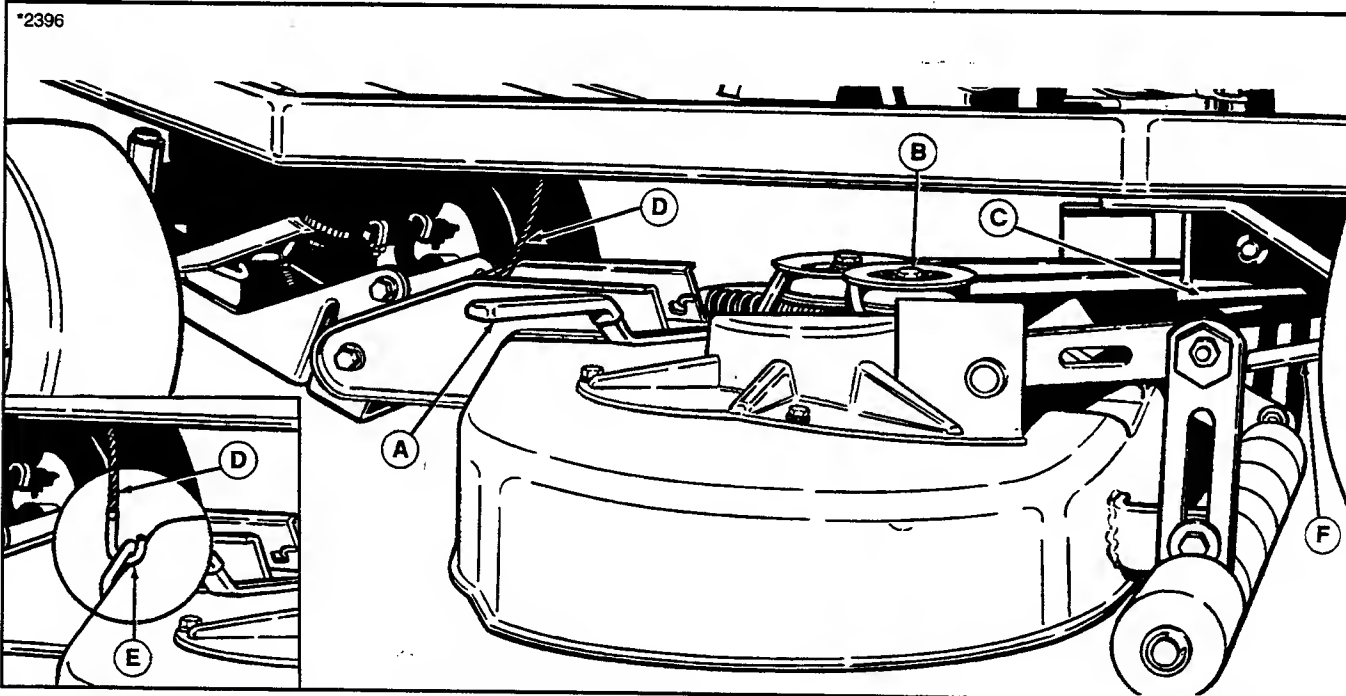

Figure 5. Mower Removal/Installation (34" mower shown)
NOTE: Perform mower installation on a hard, level surface such as a concrete floor. For easier mower removal and installation, rear trailing arms (F, figure 5) can be removed by removing spring clips and clevis pins.
- On left-hand side of 34" mower, push idler pulley arm (A, figure 5) to relieve belt tension.
- With belt tension relieved, remove belt from idler pulley (B, figure 5) and PTO pulley (C). Removing belt relieves tension on the front hitch assembly.
- With lift lever down and Dial-A-Cut™ control set to the lowest setting, remove lift cable (D, figure 5) from mower hook (see inset illustration, figure 5).
- To install mower, reverse above steps. Check mower belt pattern as shown in figure 7. Make sure that the mower lift cable is installed with hook toward the rear and rear trailing arms (F, figure 5) are positioned above rear torsion bar.